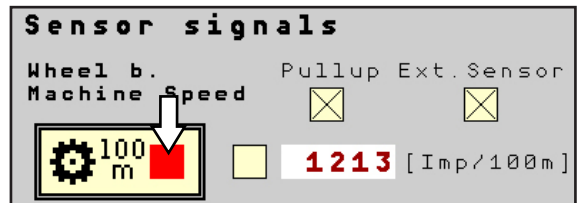

Fig. 84: Determination of the pulse rate is active
- Stop at the end of the 100m and press the 100m soft key again (see Fig. 84).